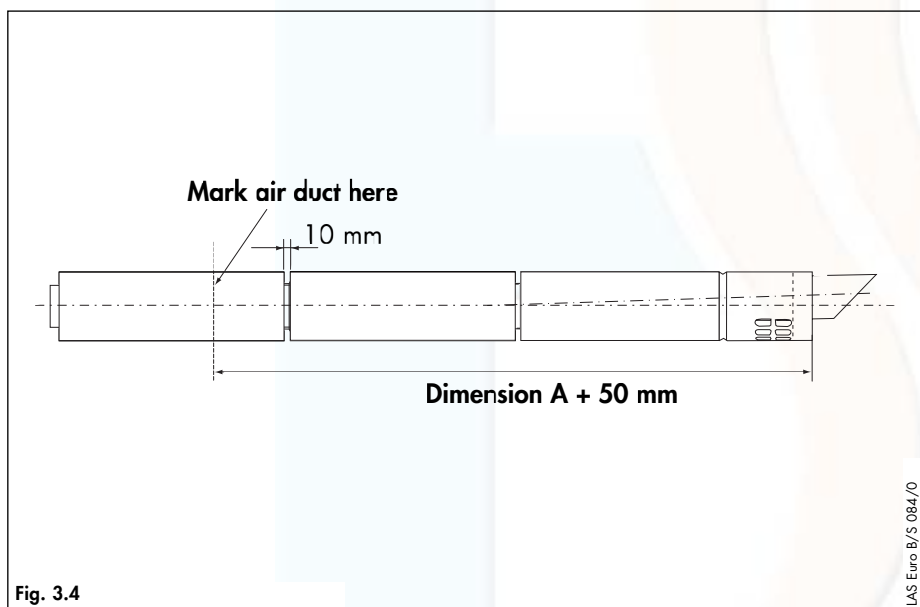

Fig. 3.4
- For ease of measuring and marking the air/flue duct extensions, assemble them loosely together with the air/flue duct and terminal assembly as shown (fig. 3.4).